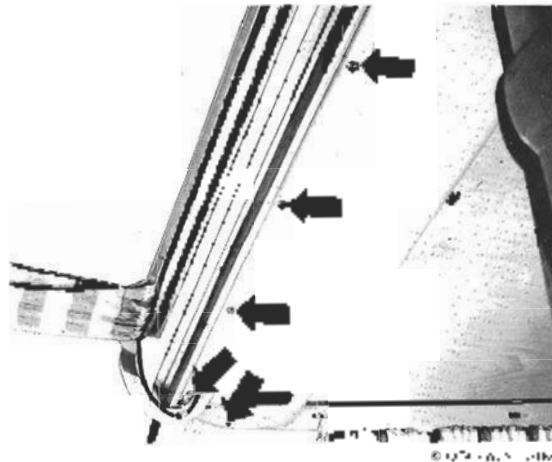

Fig. 7-26. Five screws with press button fasteners
5. If necessary, raise the luggage compartment lid. Then remove the Phillips head screws with press-button fasteners indicated in Fig. 7-26. Then remove the end part of the roof trim.